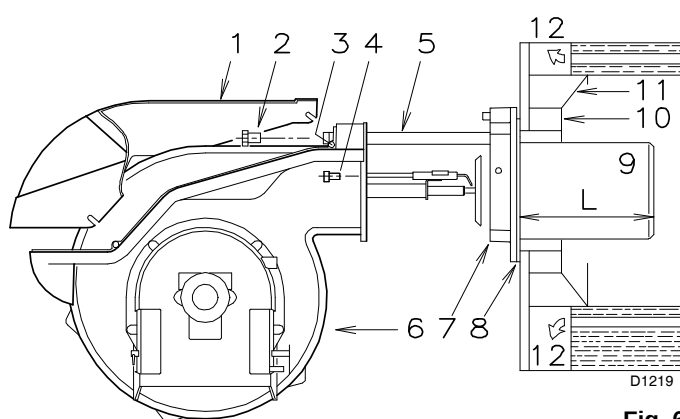

Fig. 6
### 5.4 Blast tube length (Fig. 6)
For boilers having a water-cooled front the refractory fettling 10)-11) (Fig. 6) is not required unless it is expressly requested by the boiler manufacturer.
Once this operation has been carried out (if it was required), secure flange 7) (Fig. 6) to the boiler plate interposing the supplied gasket 8). Use the 4 screws provided after having protected the thread with antiscuffing products.
- Retract the burner on its slide bars as shown in (Fig. 6, page 10).